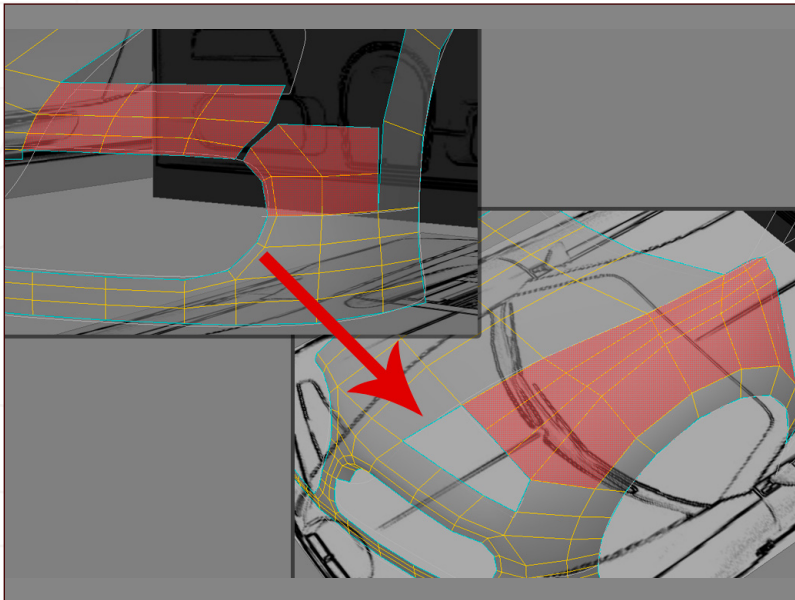

Fig 17
17. With further extrusions, fill out the remaining gaps. Where the surfaces meet, use the Weld Point Tool (Model Module > Modify > Poly Mesh) to weld the points together, and add more detail with extra points where needed (Fig17).